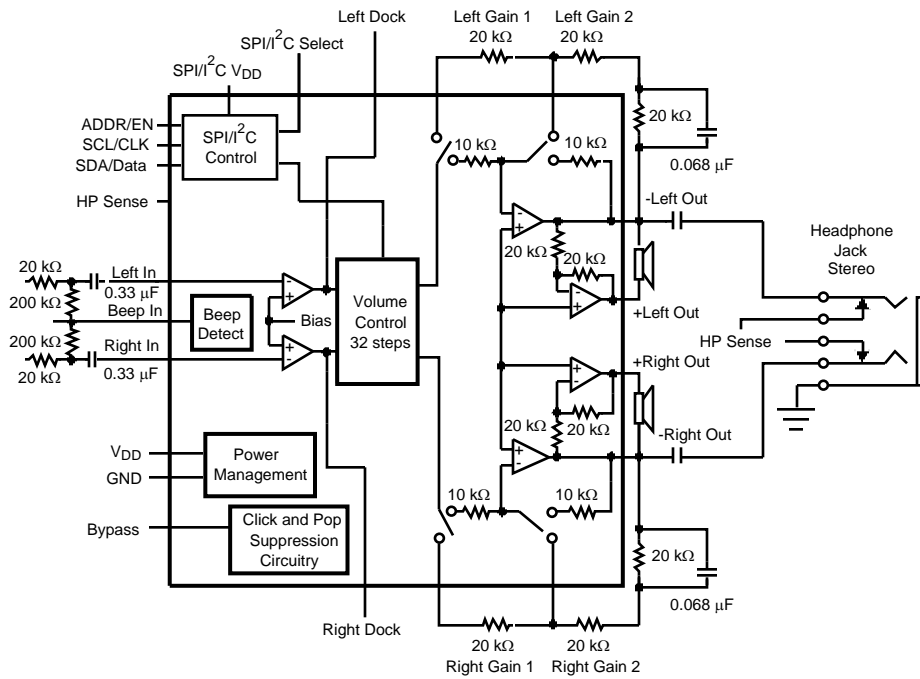

Figure 2. LM4936 Block Diagram
- (1) All voltages are measured with respect to the ground pins, unless otherwise specified. All specifications are tested using the typical application as shown in Figure 2.
- (2) *Absolute Maximum Ratings* indicate limits beyond which damage to the device may occur. *Operating Ratings* indicate conditions for which the device is functional, but do not ensure specific performance limits. *Electrical Characteristics* state DC and AC electrical specifications under particular test conditions which ensure specific performance limits. This assumes that the device is within the Operating Ratings. Specifications are not specified for parameters where no limit is given, however, the typical value is a good indication of device performance.
- (3) Typicals are measured at $25^\circ C$ and represent the parametric norm.
- (4) Limits are specified to Texas Instruments' AOQL (Average Outgoing Quality Level). Datasheet min/max specification limits are specified by design, test, or statistical analysis.
- (3) Typical values are measured at $25^\circ C$ and represent the parametric norm.
- (5) PCB design will affect Crosstalk performance.